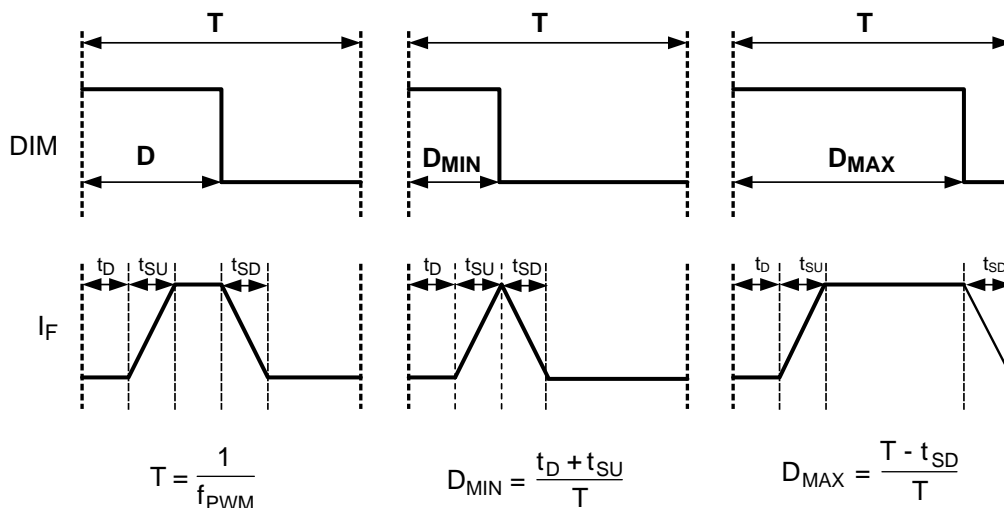

Figure 3. PWM Dimming Limits
The **DIM1** terminal on the PCB provides an input for a logic-level pulse width modulation signal for dimming of the LED array. In order to fully enable and disable the LM3406HV the PWM signal should have a maximum logic low level of 0.8V and a minimum logic high level of 2.2V. Graphical representations of minimum and maximum PWM duty cycle are illustrated in Figure 3. The interval  $t_D$  represents the delay from a logic high at the DIM pin to the rise in output current. The quantities  $t_{SU}$  and  $t_{SD}$  represent the time needed for the output current to slew up to steady state and slew down to zero, respectively. It is important to note that  $t_D$  is a property of the LM3406HV and remains fixed in all applications. The slew rates  $t_{SU}$  and  $t_{SD}$  are a function of the external circuit parameters  $V_{IN}$ ,  $V_O$ ,  $I_F$ , inductance (L) and the LM3406HV parameter  $t_{OFF-MIN}$ . Response times for a circuit driving three white LEDs at 1A from 24V are shown in the Typical Performance Characteristics section, but the user should test every new circuit to determine the actual PWM dimming response.